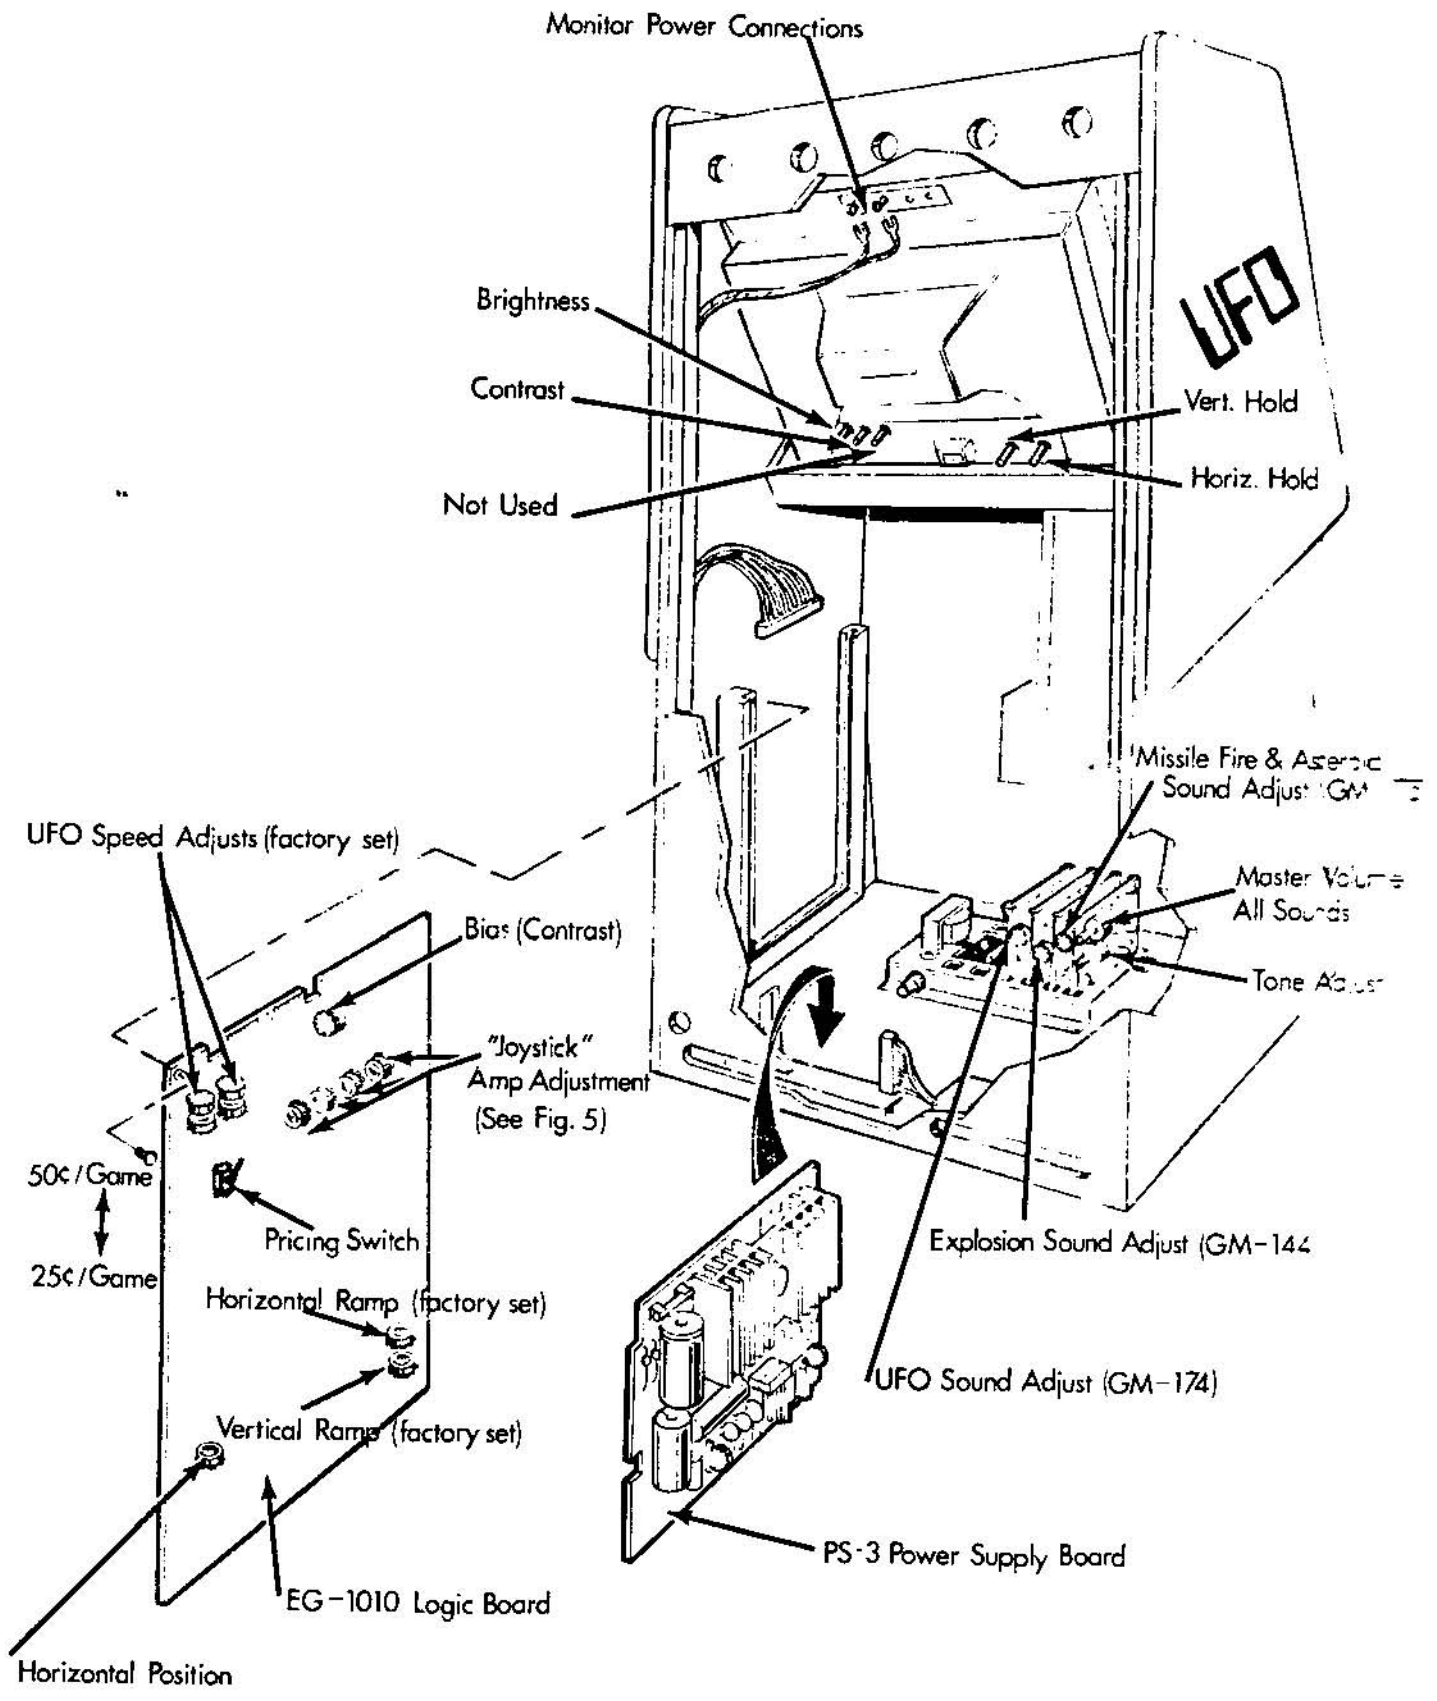

FIGURE 3
- . Inspect the Video Monitor for obvious damage; then inspect the Power Supply unit in the Base. (Refer to Figure 3.) The PS-3 Power Supply Board should be connected and securely in position.
- . Inspect the EG-1010 Logic Board. The board should be in its card guide with the edge connector fully seated. (One screw in the upper left hand corner locks the board in place, refer to Figure 3.)
The Pricing Switch on the EG-1010 Logic Board is shown set for Two Quarters per Game. (See Figure 3.) By setting the pricing switch to One Quarter per Game, pricing is automatically changed.
NOTE: Study Figure 3 before making any adjustments.